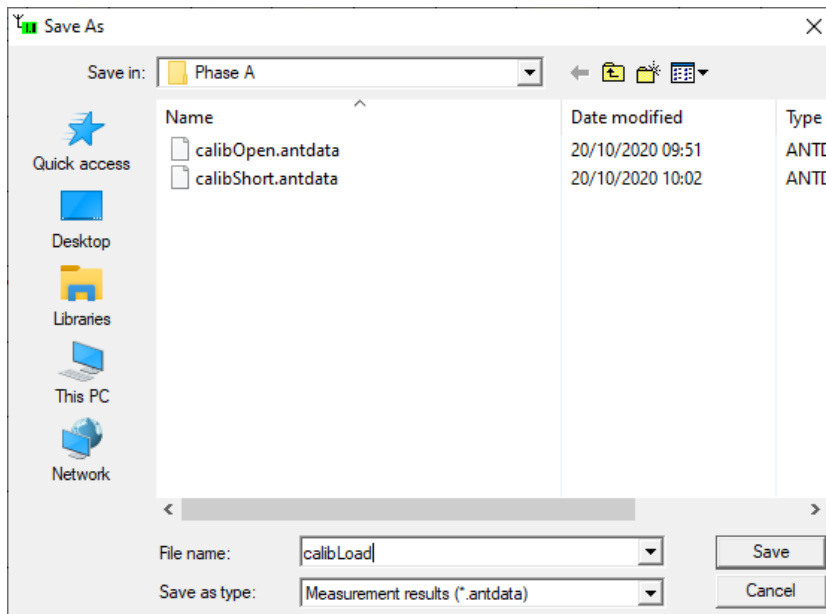

Figure 9-41: Save As “calibLoad”
4. Select **File > Save As** and type the filename `calibLoad` as shown in Figure 9-41 to save the data in the folder created in Section 9.8.2.1 for this Bushing Adaptor.